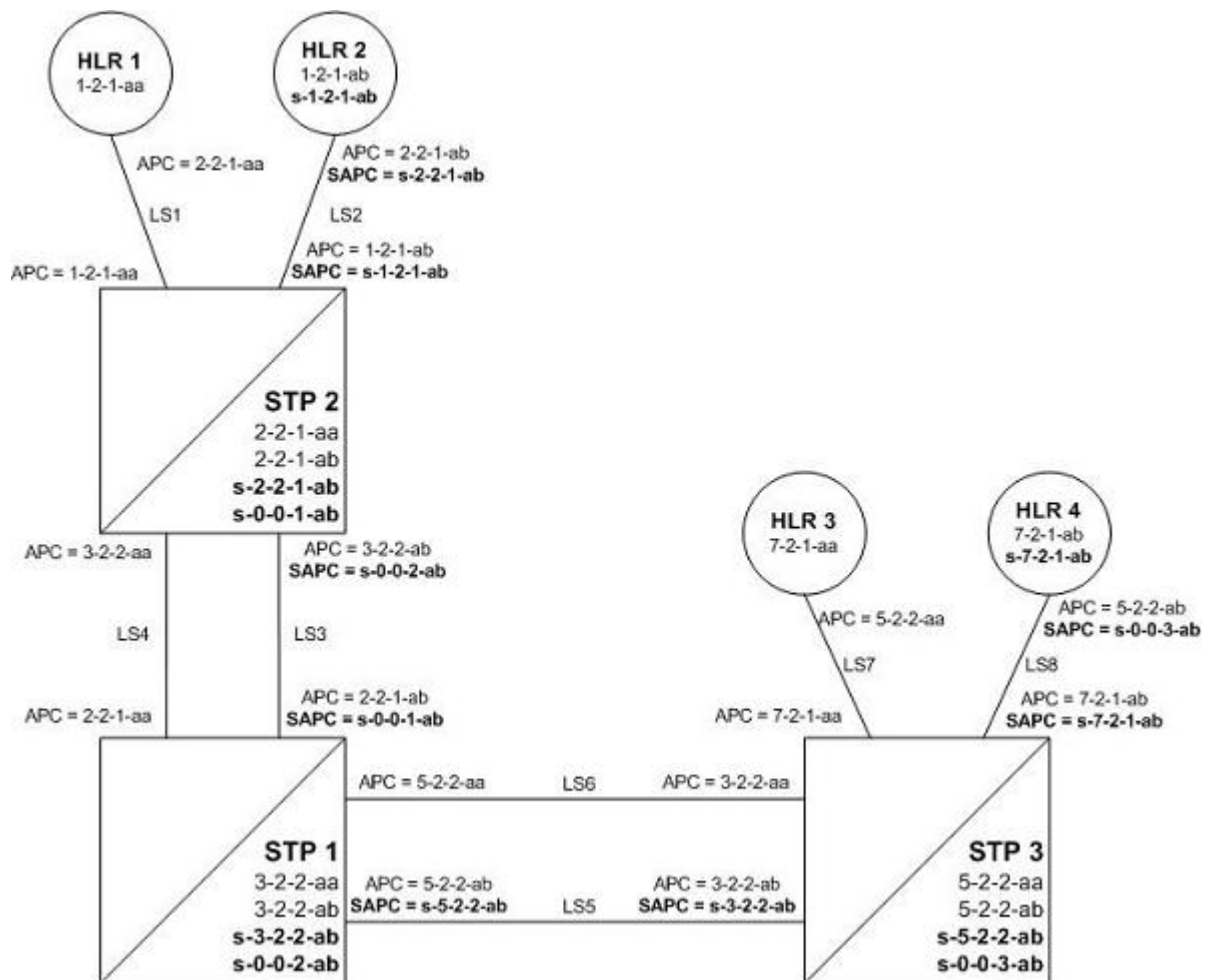

Figure 8: Stage One - ITU National and International Spare Point Code Support Feature Provisioned on All Nodes
Figure 8: Stage One - ITU National and International Spare Point Code Support Feature Provisioned on All Nodes shows an example network. The items shown in bold are items that are added during this stage of the migration procedure.
The following steps are performed for each node shown in Figure 8: Stage One - ITU National and International Spare Point Code Support Feature Provisioned on All Nodes, one at a time, as part of this stage of the migration procedure.
1. Upgrade each EAGLE 5 ISS shown in Figure 8: Stage One - ITU National and International Spare Point Code Support Feature Provisioned on All Nodes to the software release that contains the ITU National
2. Enable the ITU National and International Spare Point Code Support feature on each EAGLE 5 ISS shown in *Figure 8: Stage One - ITU National and International Spare Point Code Support Feature Provisioned on All Nodes*, by performing the *Activating the ITU National and International Spare Point Code Support Feature* procedure. Do not turn the feature on at this time.
After Stage One has been completed, as indicated in *Figure 8: Stage One - ITU National and International Spare Point Code Support Feature Provisioned on All Nodes*, linksets LS2, LS3, LS5, and LS8 are capable of supporting traffic to and from both ITU-National and ITU-National spare point codes. Routing decisions, however, are still made using the Duplicate Point Code rules, as the ITU National and International Spare Point Code Support feature has not been turned on.